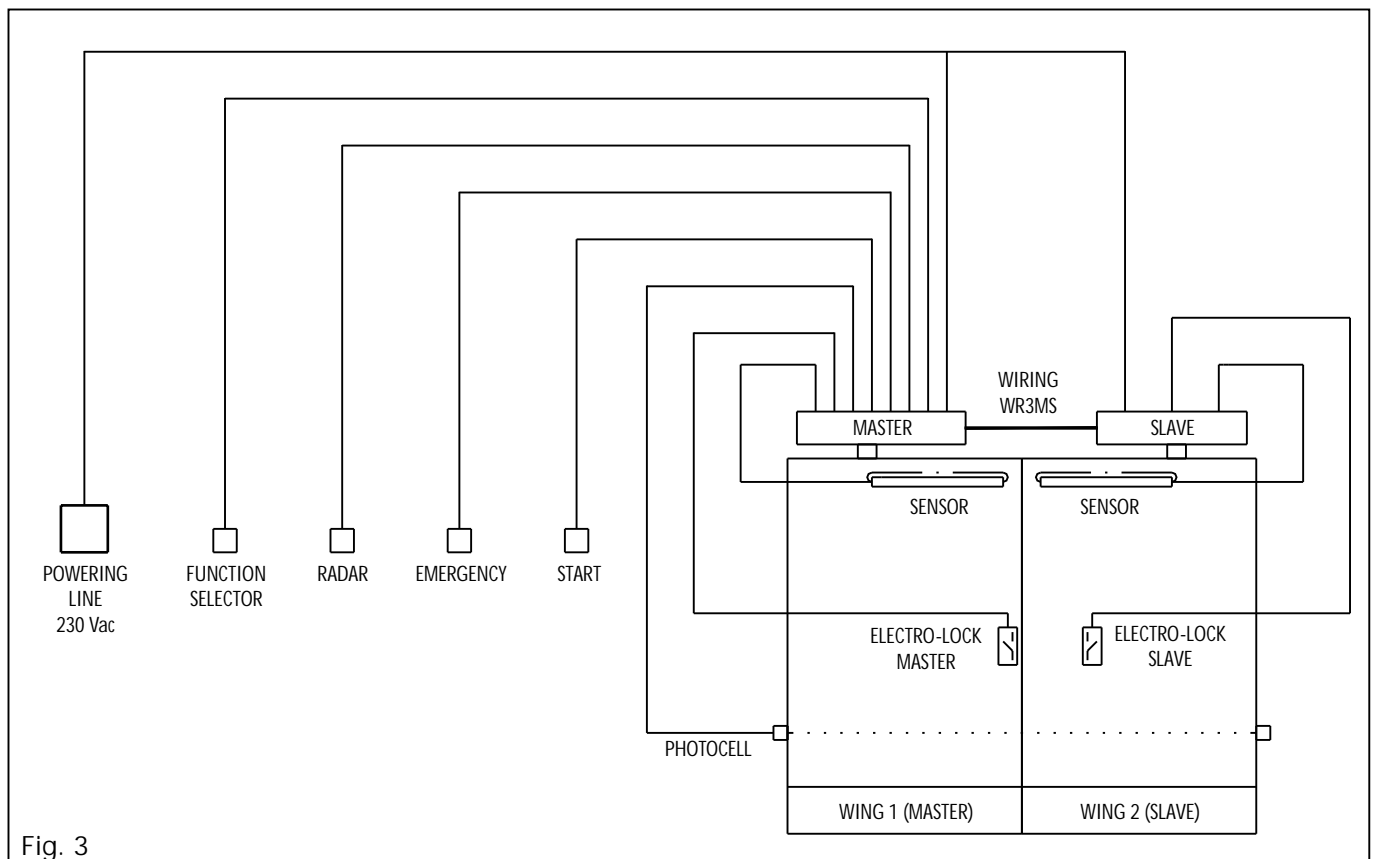

Fig. 3
13.1) ELECTRICAL CONNECTIONS (see indicative diagram in figure 3)